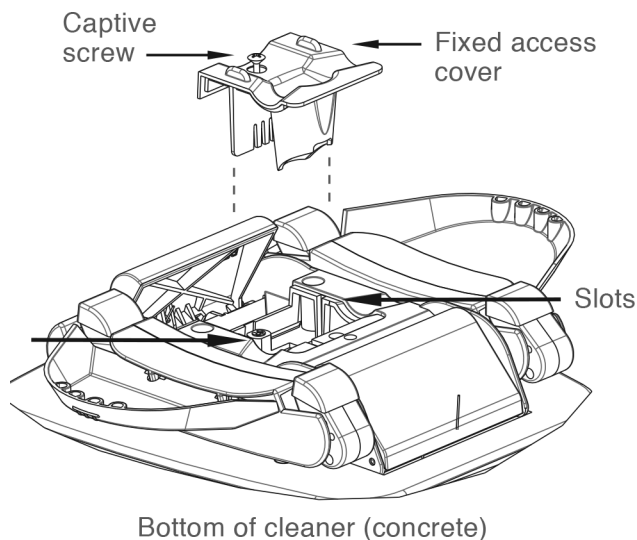

Fig.11
3. Lift the fixed access cover (see Figs. 11 & 12, Pg 6).